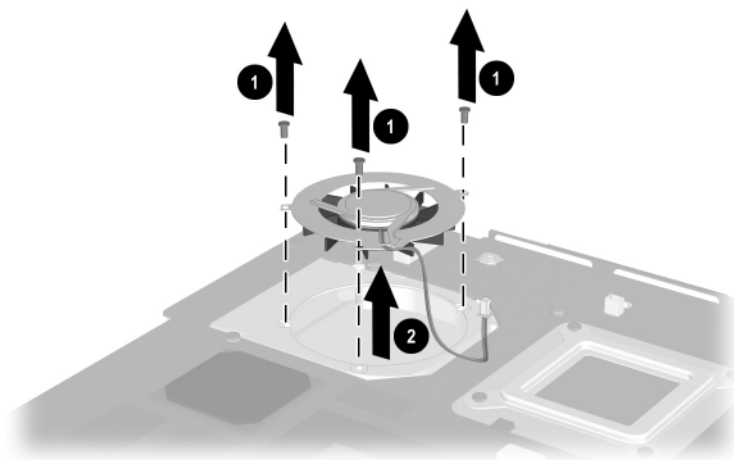

Figure 5-32. Removing the Fan on an Evo Notebook N610c
8. Remove the three PM2.0 $\times$ 4.0 screws ❶ that secure the fan to the heat sink (Figure 5-32).
9. Lift the fan out of the heat sink ❷.